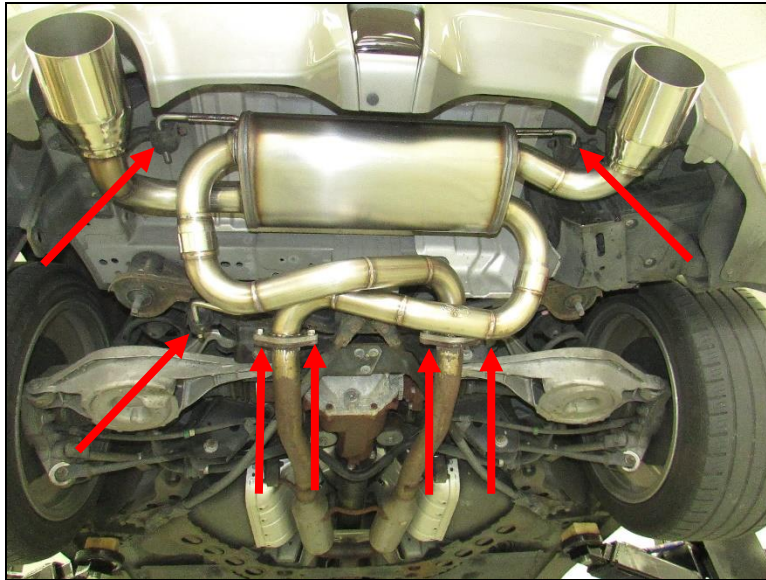

Figure 3
2. Reuse the OE nuts and gaskets (replace, if needed). Install the Blackheart axle-back. Slide in (x3) hangers in the OE rubber isolators. Install OE gaskets and (x4) OE 14mm head nuts (**Figure 3**).